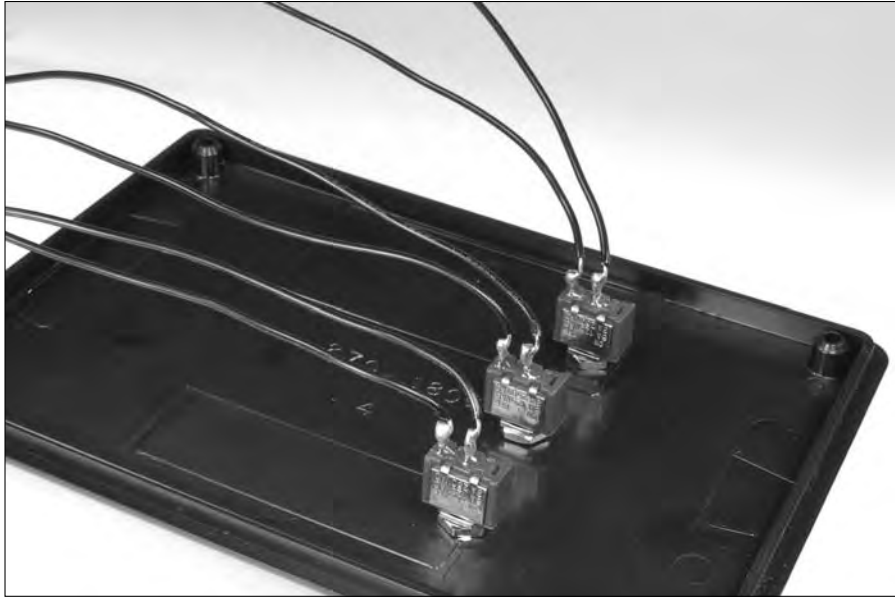

Figure 13-16:
5. Solder 6" wires to each of the two lugs on each of the three switches mounted on the cover, as shown in Figure 13-16.